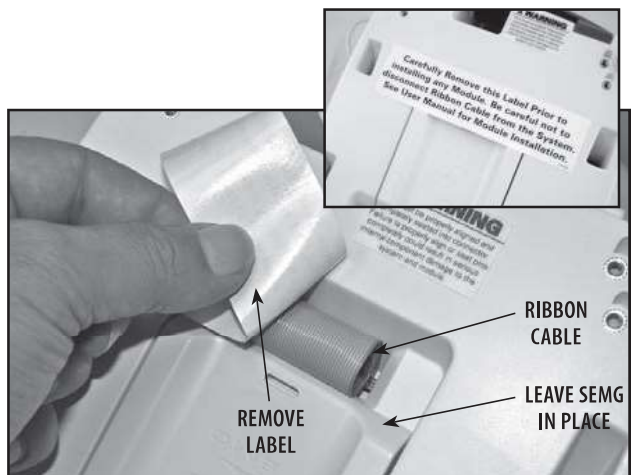

FIGURE 6.4
6. Turn system over, remove the label covering the Ribbon Cable and unroll Ribbon Cable. **See Figure 6.4.**